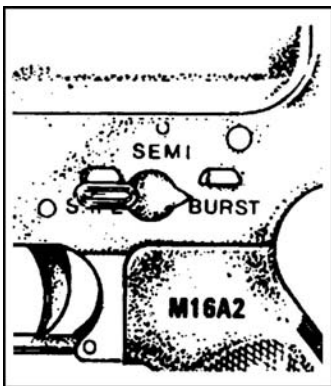

Figure 071-311-2027-4. Selector lever on BURST
- d. Place the selector lever in the BURST position (figure 071-311-2027-4).